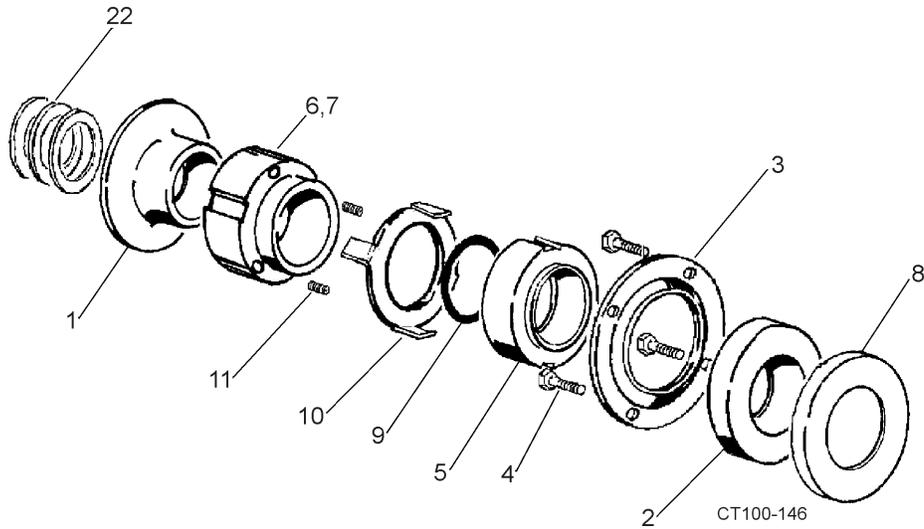

**Figure 42 - Install Backplate Bolts**
14. Install bolts and washers connecting the front cover to the backplate (Figure 42).
11. Install bolts and washers connecting the front cover to the backplate (Figure 42).